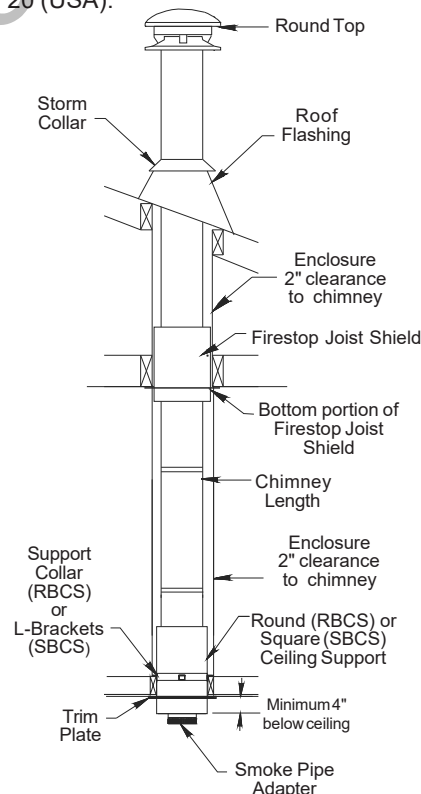

Figure 20 - USA - Enclosed Living and Attic Space
NOTE: In the USA - When the chimney is enclosed in the attic area from a living space a Firestop Joist Shield (JS) must be installed into the attic (see Figure 20).